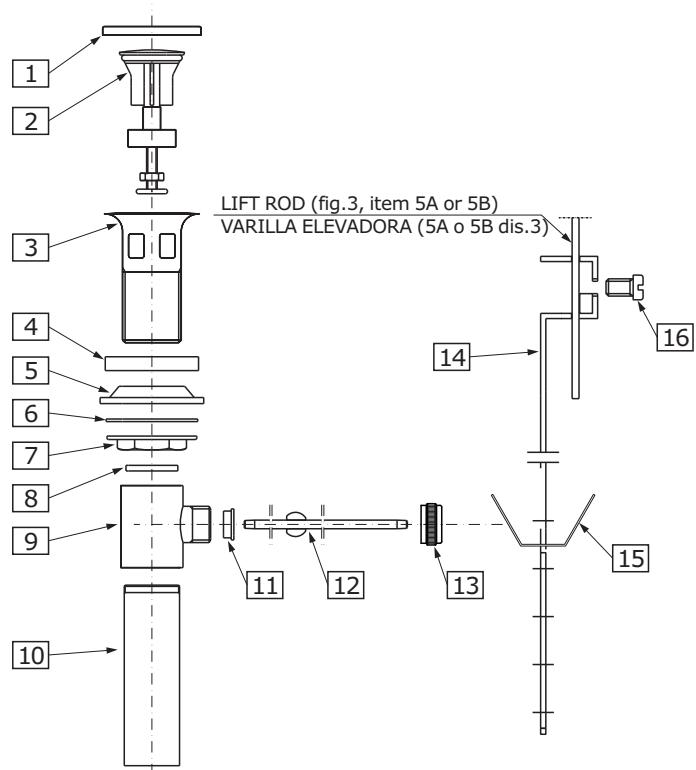

FIG. 5
See fig. 5
- Dismantle the drain assembly to the parts shown on **fig. 5**.